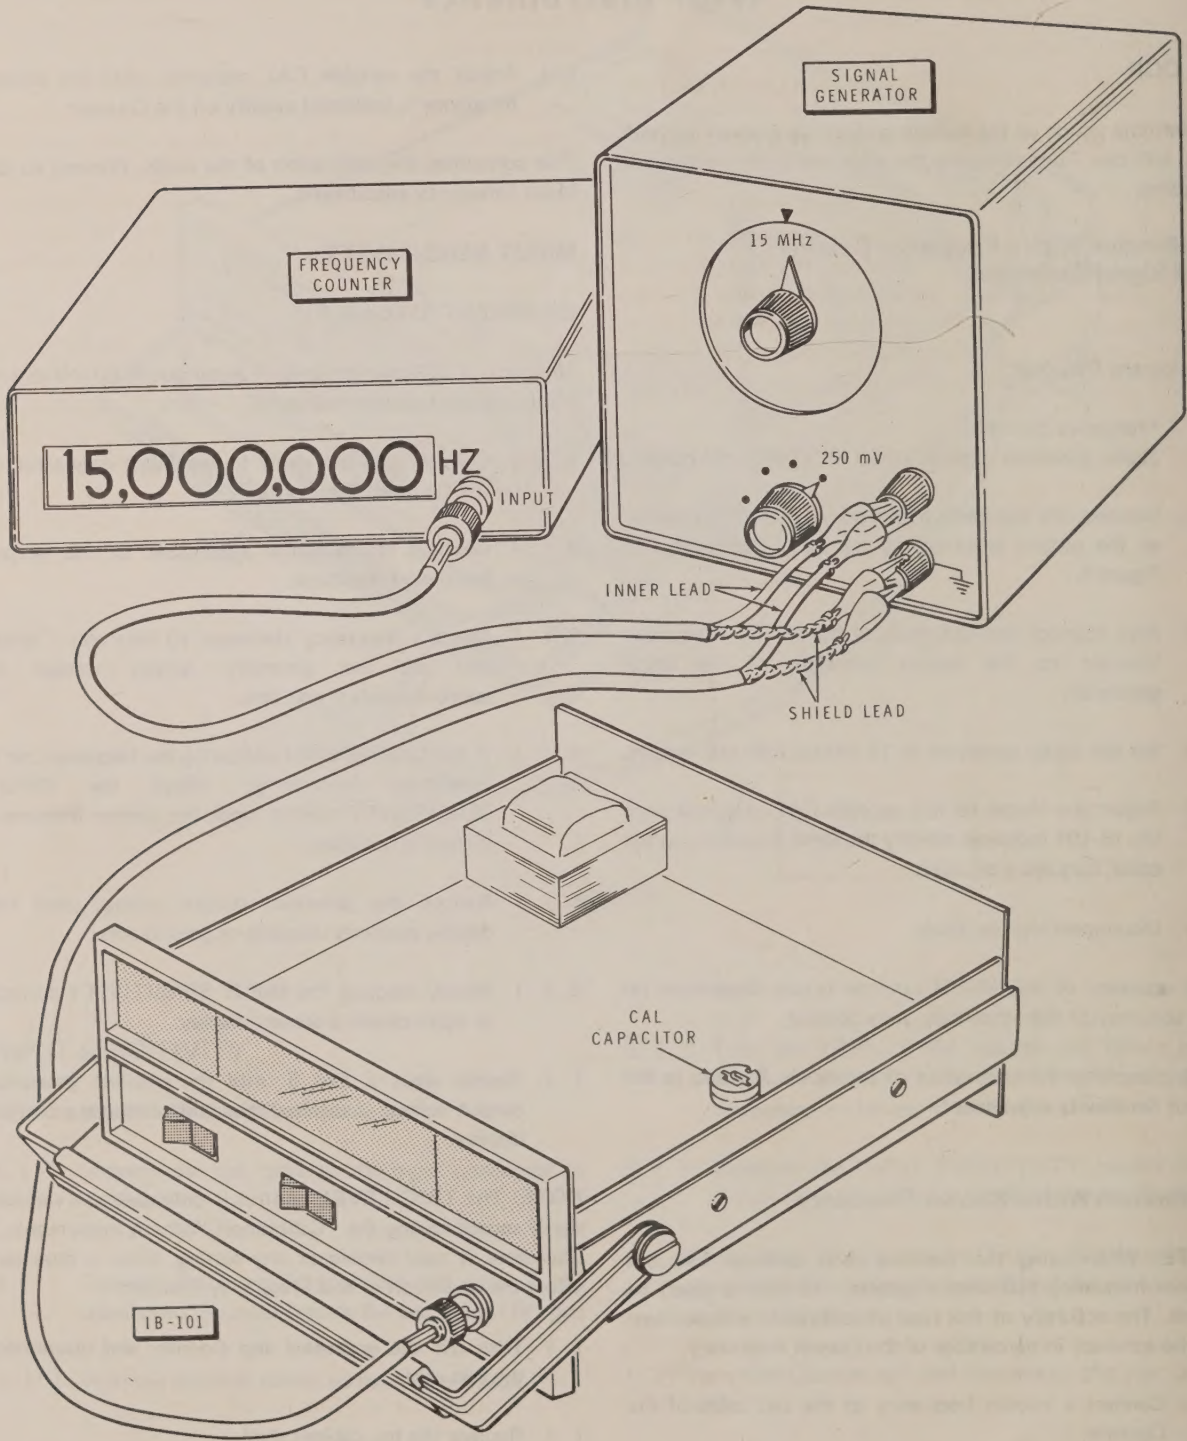

Figure 6
- () Connect the test leads of the above frequency counter to the output terminals of the signal generator. See Figure 6.